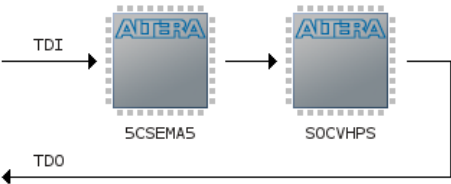

Figure 8-18. JTAG Scan Chain
You should now see 2 devices on the JTAG scan chain, as shown in Figure 8-18.
40. Right-click on the “5CSEMA5” device shown in Figure 8-18 and choose “Edit > Change File”. Then, select “DE1_SoC_demo/hw/quartus/output_files/DE1_SoC_demo.sof” through the file browser.